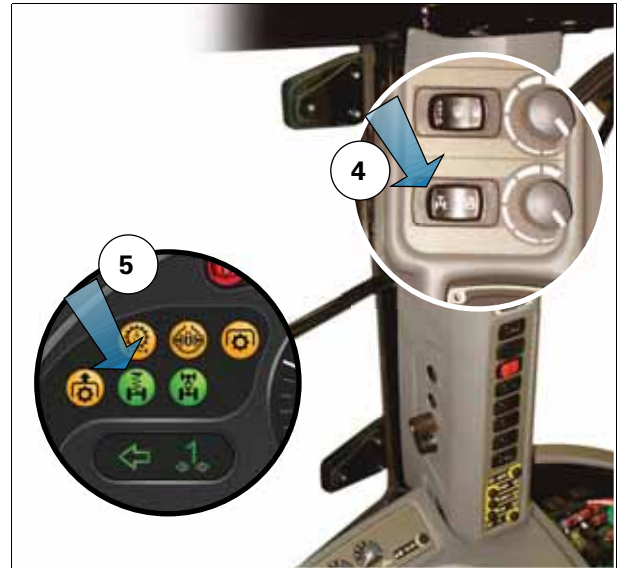

Fig. 2.
The axle suspension can be activated and deactivated by the switch ((4)) located on the right-hand console inside the cab fig. 2.
- Press the switch (4) five times *fig. 2* to switch from low position to middle position.
- Press the switch (4) five times *fig. 2* to switch from middle position to low position.